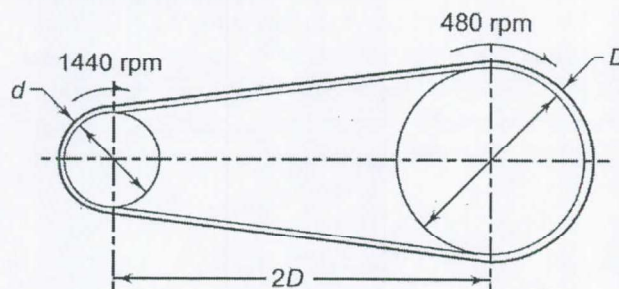

Figure 6: A belt drive
- 14 (a) The layout of a leather belt drive transmitting 15 kW of power is shown in Fig. 6. The centre distance between the pulleys is twice the diameter of the bigger pulley. The belt should operate at a velocity of 20 m/s approximately and the stresses in the belt should not exceed 2.25 N/mm2. The density of leather is 0.95g/cc and the coefficient of friction is 0.35. The thickness of the belt is 5 mm. Calculate: